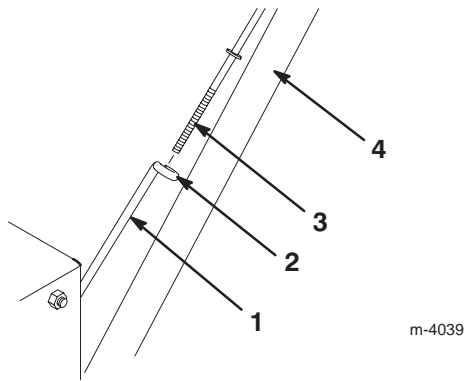

Figure 4
3. Hold the handle assembly in the installation position and insert the upper traction rod through the loop in the lower traction rod (Fig. 4).